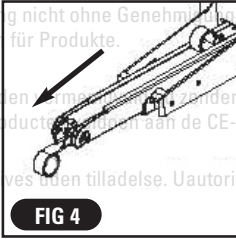

FIG 4
- A. Pull the pusher to the back of the magazine. (Fig 4)